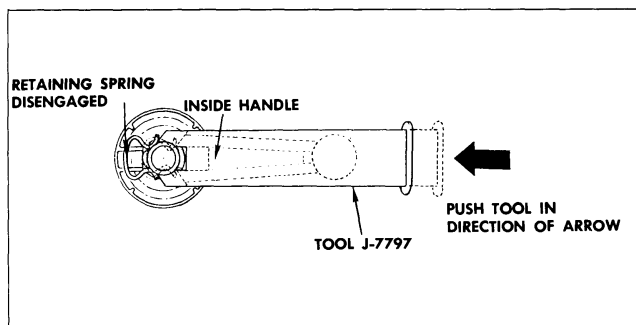

Fig. 3-16 Handle Retaining Spring
3. To install, position retaining spring on handle and bearing plate over regulator spindle. Position handle on spindle at same angle as handle on opposite door and push handle until spring is engaged (Fig. 3-16).